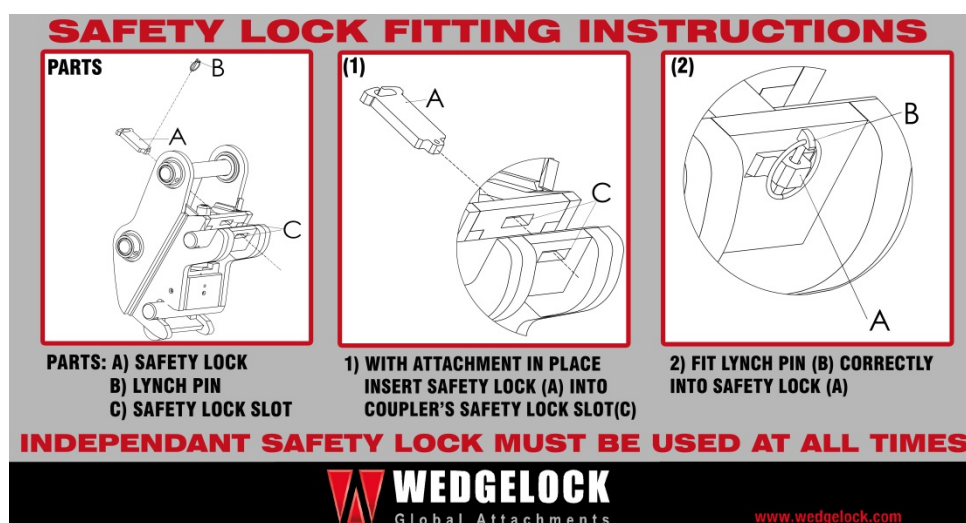

Fig 2.2.1
- Insert the secondary Safety Lock and retain as required – see Fig 2.2.1 & 2.2.2
1. The “Drop-Lock” style inserts from above the c-section through the safety lock slot. The retention of the drop-lock is by means of inserting a lynch pin through the hole on the drop-lock. (Fig 2.2.1)